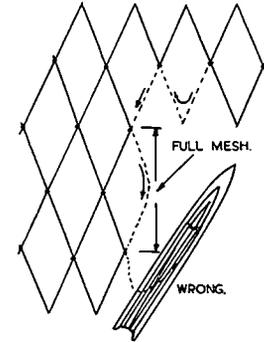

Fig. 36
5. A side knot cannot follow a side knot on the same side of the hole (Fig. 36). This would entail progressing down the hole by a full mesh (two rows) instead of the specified half mesh (one row).